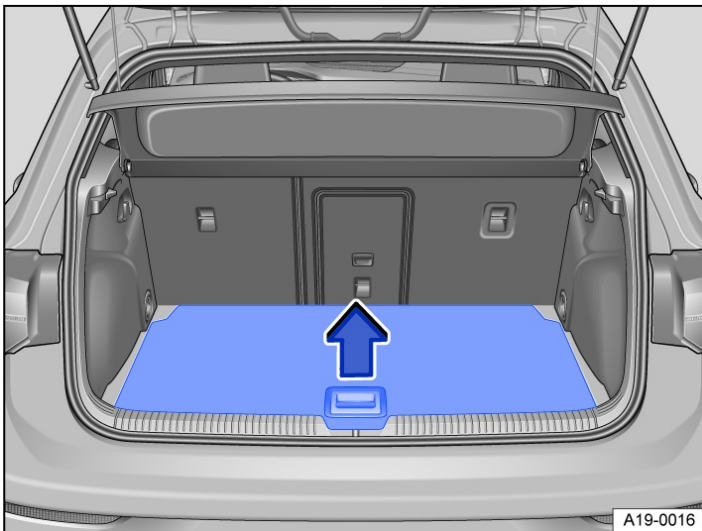
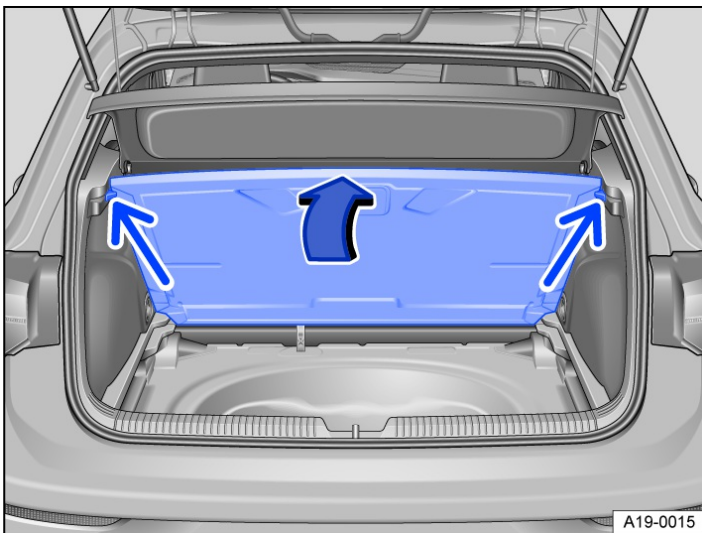

Fig. 1 In the luggage compartment: lifting the variable luggage compartment floor.
Fig. 2 In the luggage compartment: folding up the variable luggage compartment floor.
1. Grasp the handle recess in the luggage compartment floor → *Fig. 1* and fold the floor upwards in the direction of the arrow until it is held in position by the side restraints → *Fig. 2* (arrows).